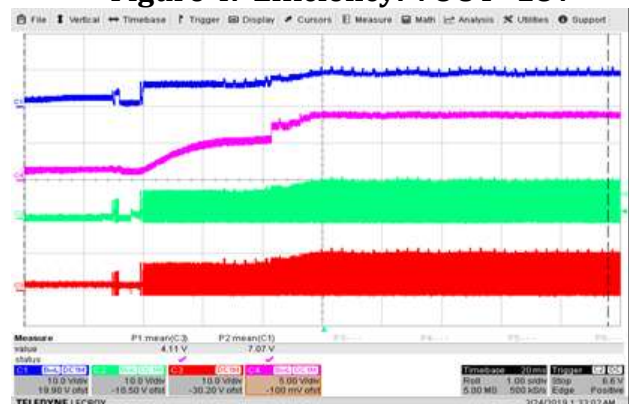

Figure 6. Start up: VOUT=9V
- Note: (1) Figure 6~7: CH1- $V_{RECT}$ ; CH2-AC1; CH3-Comm; CH4- $V_o$